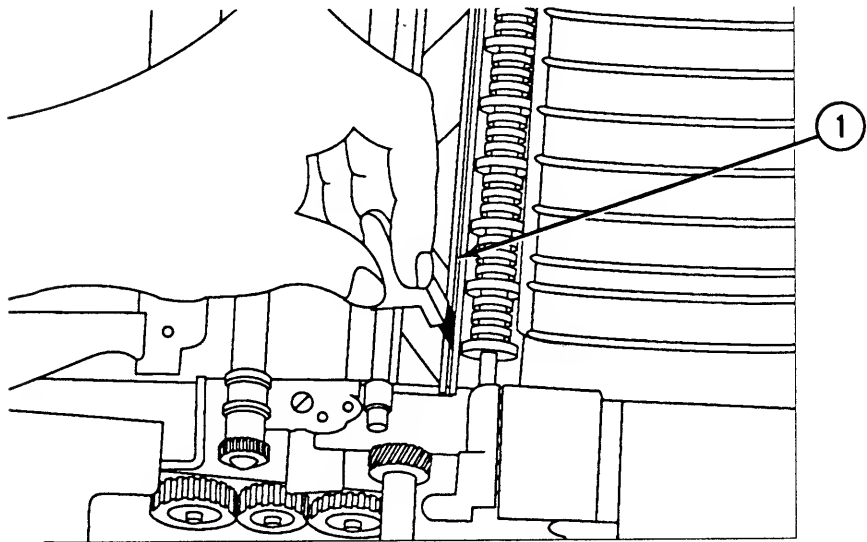

FIGURE 12
17. Clean the discharging pins using the cleaning brush to remove any dirt, dust, or toner (Figure 12, #1).